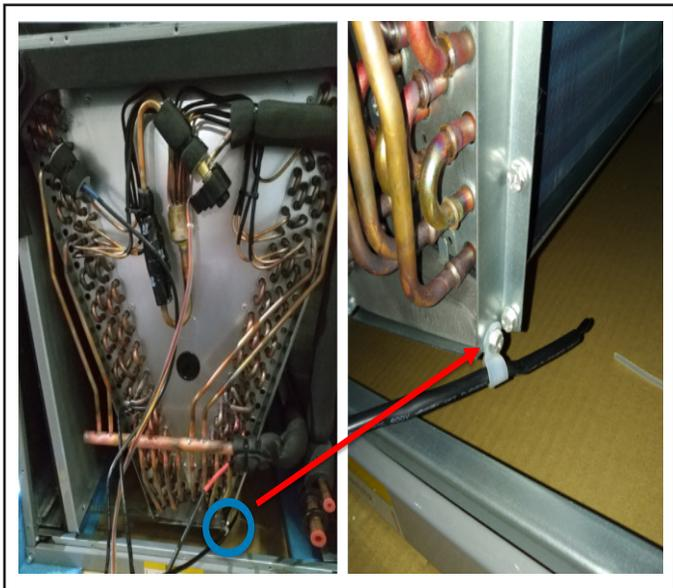

Figure 10. Secure Wire Harness with Clip
16. Secure T-1 sensor to top of coil. See Figure 10.